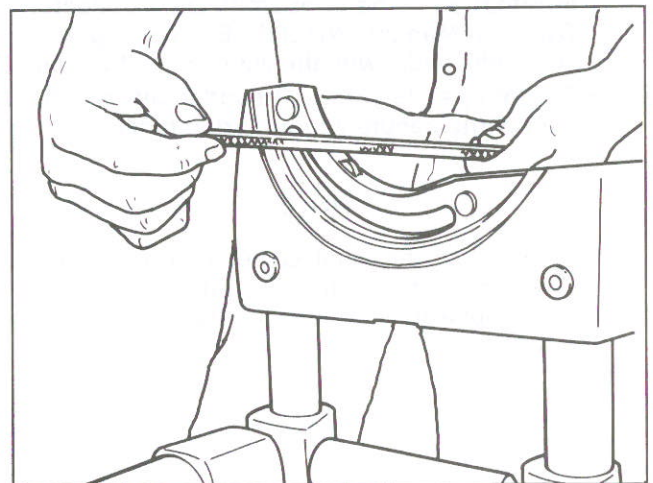

Figure 2.
d. Use a half round file to remove the protrusion. (See Figure 2.) Be careful not to file the trunnion track.